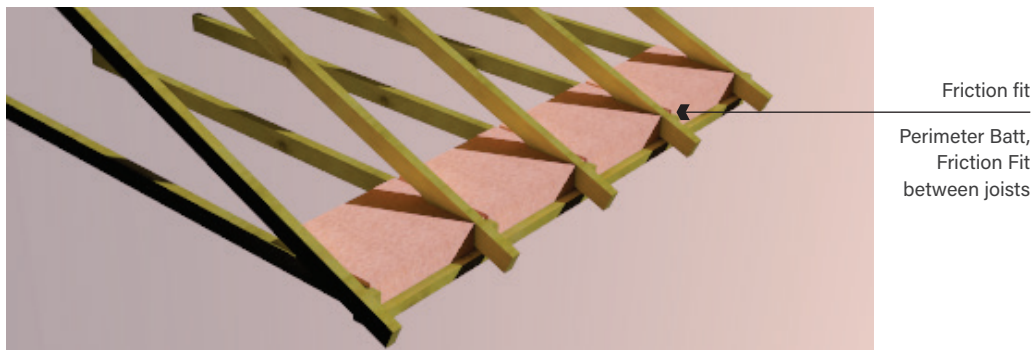

Figure 4
- Once all the Perimeter batts are in place the bulk ceiling insulation can be installed (Fig. 4).